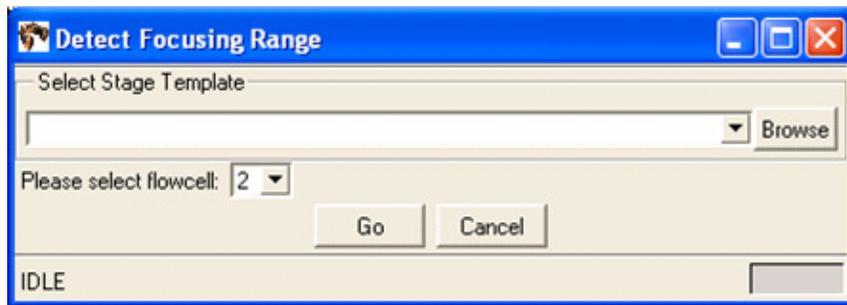

Figure 36 Detect Focusing Range dialog.
3. In the focusing range dialog, specify the stage template file by entering the name directly or by clicking the **Browse** button to navigate to a suitable one (see Figure 36). The stage template must match the slide in the target flowcell(s). If you created a run from the ICS, then select the file **imagingMap.STG** from the subdirectory in C:\Runs whose name matches the name of the run (for example, select C:\Runs\Solid0327_20081209_2_Oct_Test\imagingMap.STG).